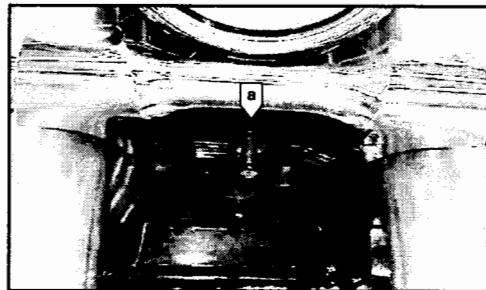

Figure 1
2. Using a 3mm hex wrench, remove the bolt and rubber well nut from the underside of the front turn signal cover. Pull the front turn signal cover forward and off by pulling evenly on both ends. See Figure 1.